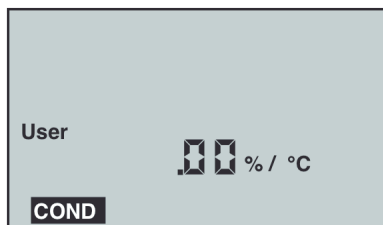

Figure 3
- b. With "User" selected, press . If the display does not show .00%/°C, hold  long enough to bring the tempco to .00%/°C (see Figure 3).